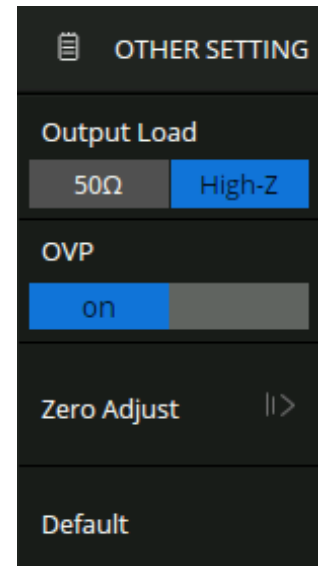

Figure 21.3
- Touch **Setting** to display the **Other Setting** menu shown in figure 21.3.